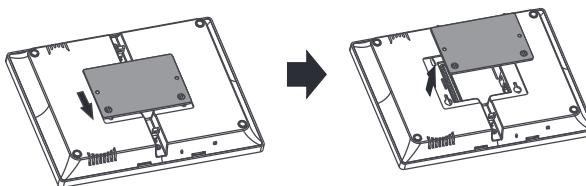

Figure 2-1
A.Push the bracket downward and separate it from the main panel, as shown in Figure 2-1.